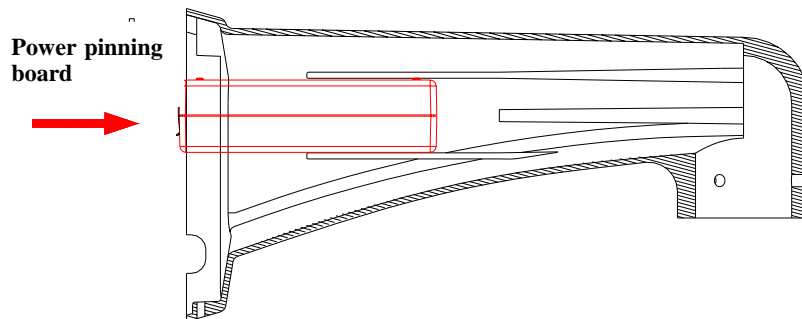

Fig 4.5-2
Step 2. Put the power device into the connected wall bracket and pin the power device with the power pinning board, then, tighten the screw lest the power device slides out. **(Refer to Fig 4.5-2)**